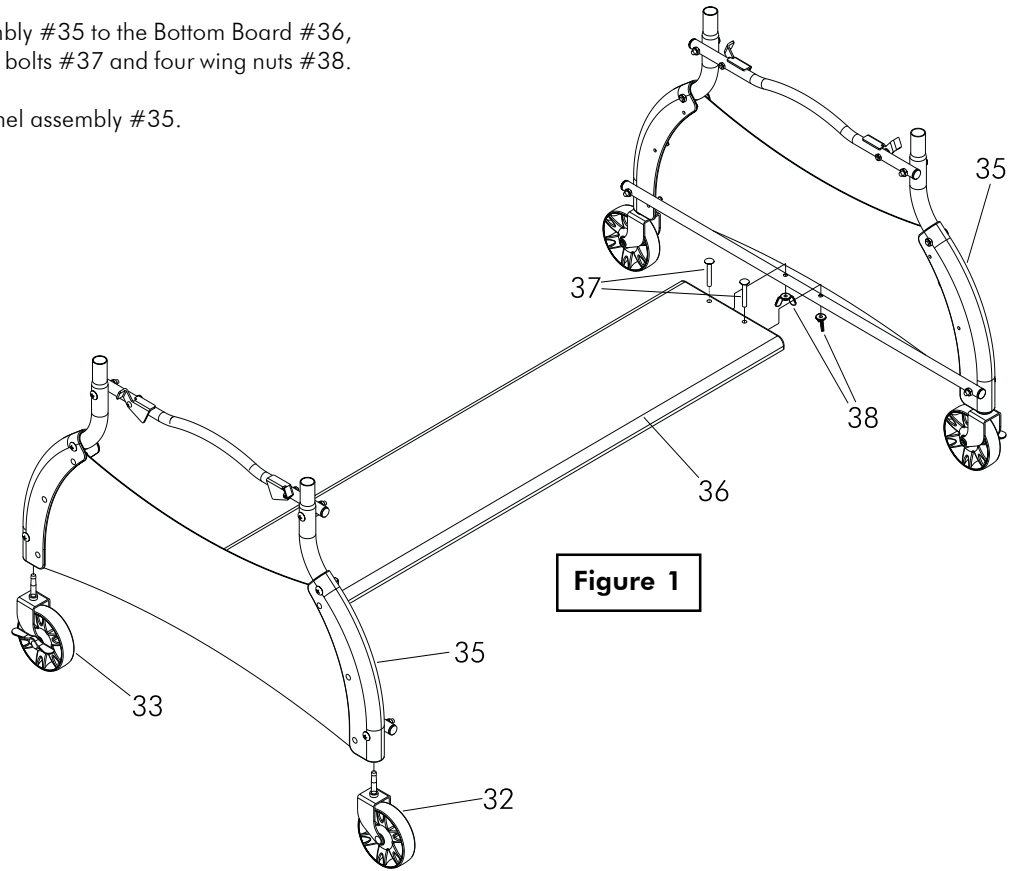

Figure 1
1. Insert one caster with brake #33 and one caster without brake #32 into caster sockets in each side panel assembly #35. See Figure 1.
2. Connect the a side panel assembly #35 to the Bottom Board #36, as shown in Figure 1, using four bolts #37 and four wing nuts #38.
2. With one person standing on each side of table, hold table half with one hand and pivot latch enough to allow edge of table half to pass over it. See Figure 1
3. Pivot table half until it moves past the latch and release latch. See Figure 1